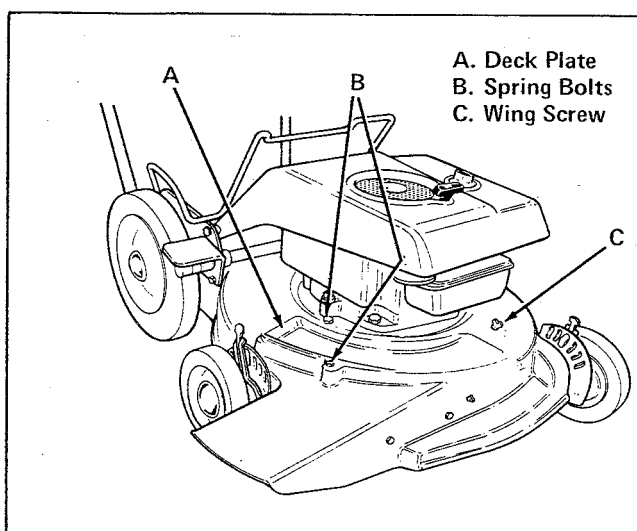

Figure 23. Install Deck Plate
2. Install deck plate (item A, figure 23) by sliding plate with two slots under the two spring bolts (item B).
2. Install only the deck plate (item A, figure 23) for side discharge.